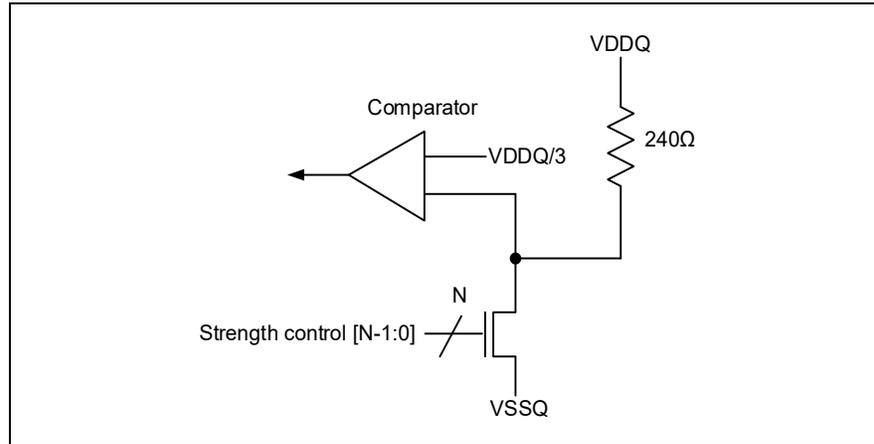

Figure 164 - Pull-down calibration for LPDDR4
1. First calibrate the pull-down device against a $240\ \Omega$ resistor to VDDQ via the ZQ pin. (Figure 164.)